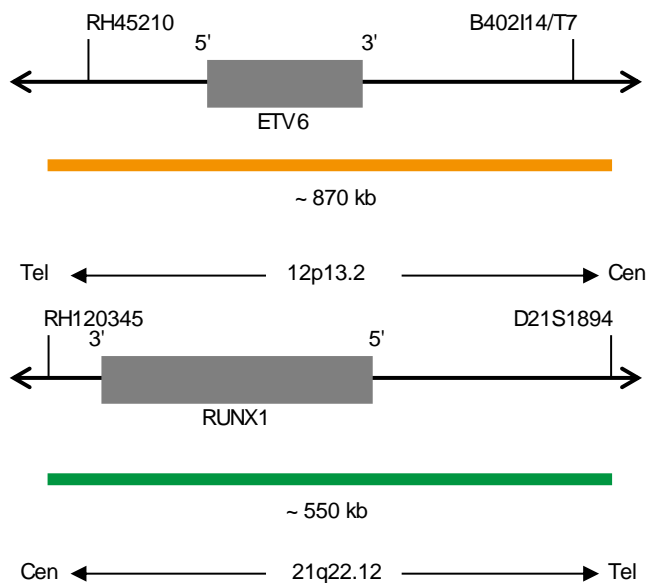

Fig. 1: Top: SPEC ETV6 Probe map; Bottom: SPEC RUNX1 Probe map (not to scale)
- ZyOrange (excitation 547 nm/emission 572 nm) labeled polynucleotides (~6 ng/ μ l), which target sequences mapping in 12p13.2* (chr12:11,586,400-12,454,330) harboring the ETV6 gene region (see Fig. 1).
- ZyGreen (excitation 503 nm/emission 528 nm) labeled polynucleotides (~12 ng/ μ l), which target sequences mapping in 21q22.12* (chr21:36,106,492-36,657,941) harboring the RUNX1 gene region (see Fig. 1).